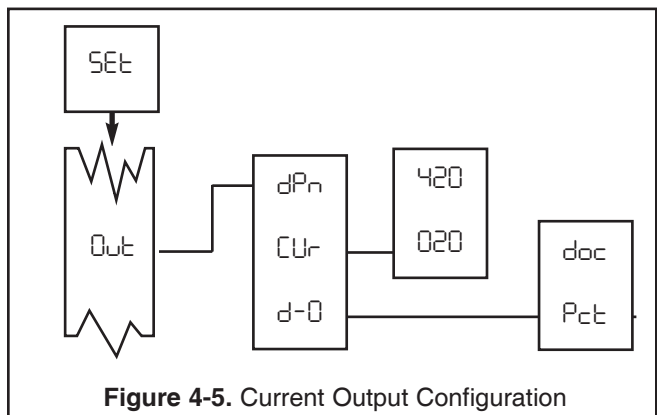

Figure 4-5. Current Output Configuration
4.5.1 Current Output Configuration Out . Refer to Figure 4-5.